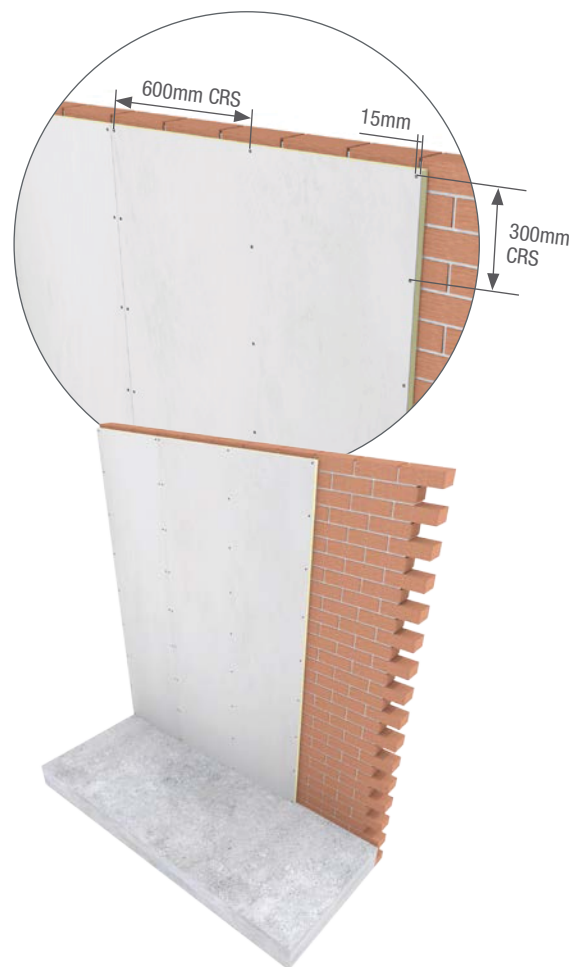

Figure 1.6. Masonry Brick or Block Wall
- B. Screws should be fixed at a maximum of 600mm CRS horizontally and 300mm vertically as shown in figure 1.6. (Note: The substrate and fixing materials must be fit for purpose. Design loading on the board is not to exceed 0.375kPa for this fixing pattern. Additional fixings may be required when the boards are subjected to greater wind loads.) Please contact Metecno for advice.